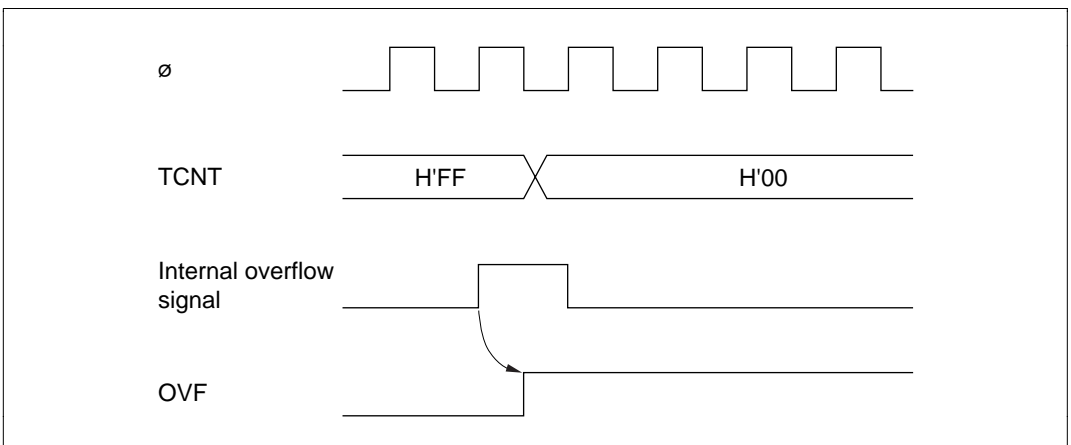

Figure 9-8 Setting of Overflow Flag
(1) **Setting of TCSR Overflow Flag (OVF):** The overflow flag (OVF) is set to 1 when the timer count overflows (changes from H'FF to H'00). Figure 9-8 shows the timing of this operation.